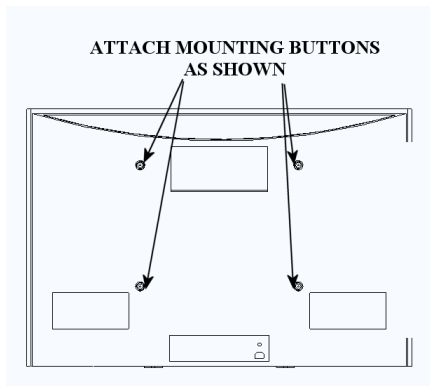
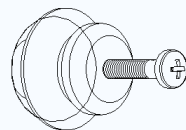

Figure 2
Figure 3
1. Attach mounting buttons to plasma using four M4 x 35mm cap screws provided (see Figure 2 & Figure 3).